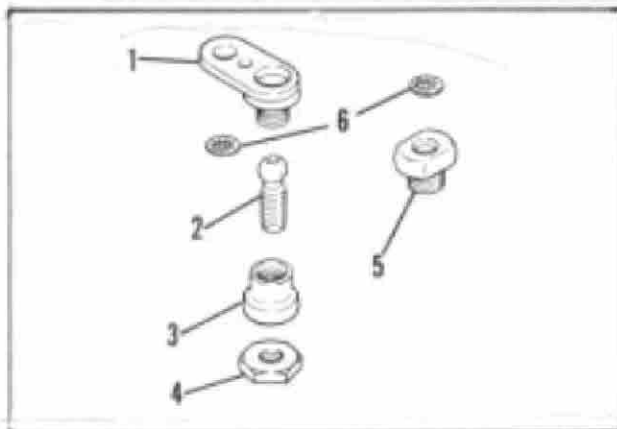

Figure 1. Components
1. See Figure 1. Attach ball receptacle (1) to mirror stem, under clutch lever housing, with original hardware from mirror stem. Add 1 internal tooth lockwasher (6) to mirror stem between ball receptacle assembly and clutch lever housing. Position mirror then tighten securely.
1. See Figure 1. Thread retainer (5) onto mirror stem below brake lever housing using original hardware from mirror stem. Add 1 internal tooth lockwasher (6) to mirror stem between brake lever housing and retainer (5).